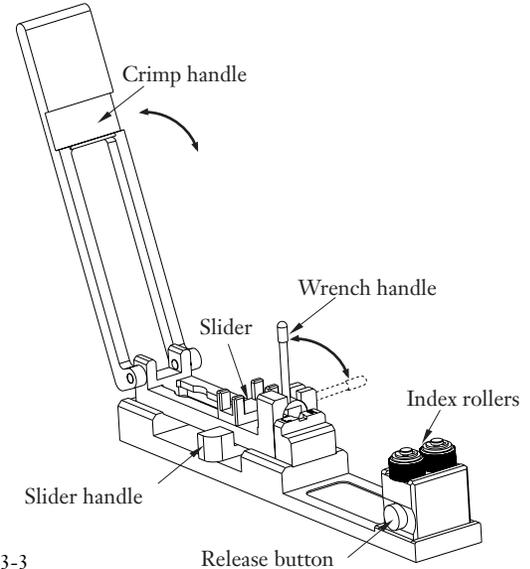

Figure 3-3
**3.3-1** The UniCam installation tool is designed to position the fibers into the connector, rotate the cam that aligns the fibers, and crimp the buffered fibers in place (Figure 3-3). The tool makes connector assembly easy and accurate.
**3.3-2** Flip the crimp handle open and rotate the wrench so that the handle is up (Figure 3-3).